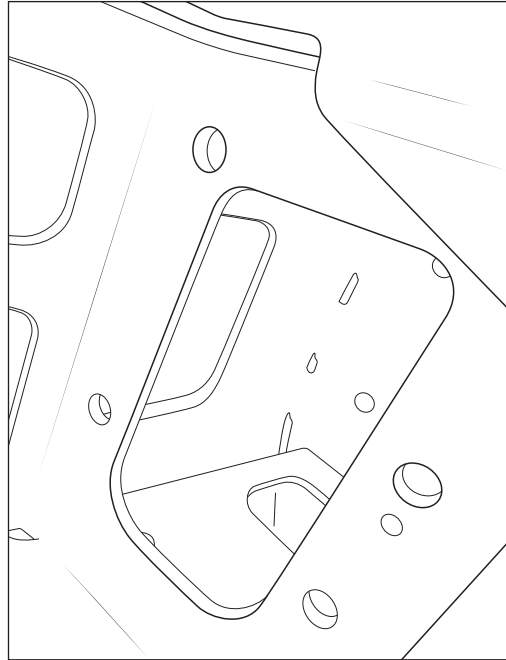

Figure 1
1. If your bumper is missing the two hole locations bolded below (top LH and RH) in Figure 1 use the template on the final page to drill out the two 1/2" holes that are needed for installation.